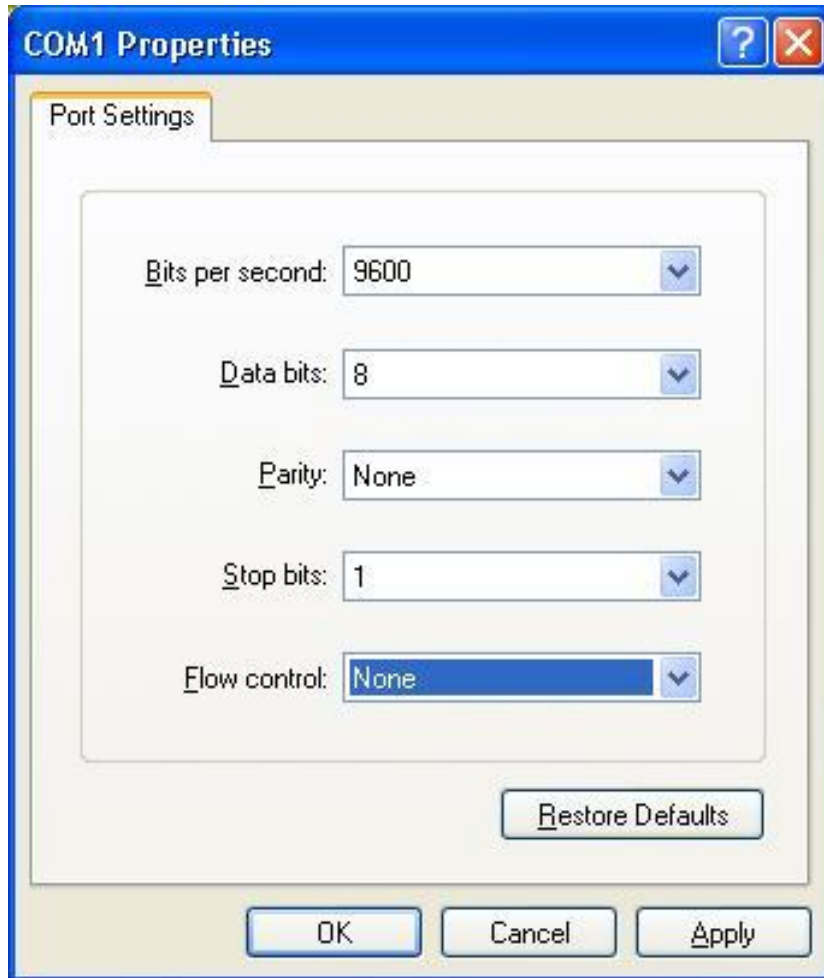

Figure 29 Port Settings
Step 5: Set port parameters (Bits per second: 9600, Data bits: 8, Parity: None, Stop bits: 1, and Flow control: None), as shown in Figure 29.